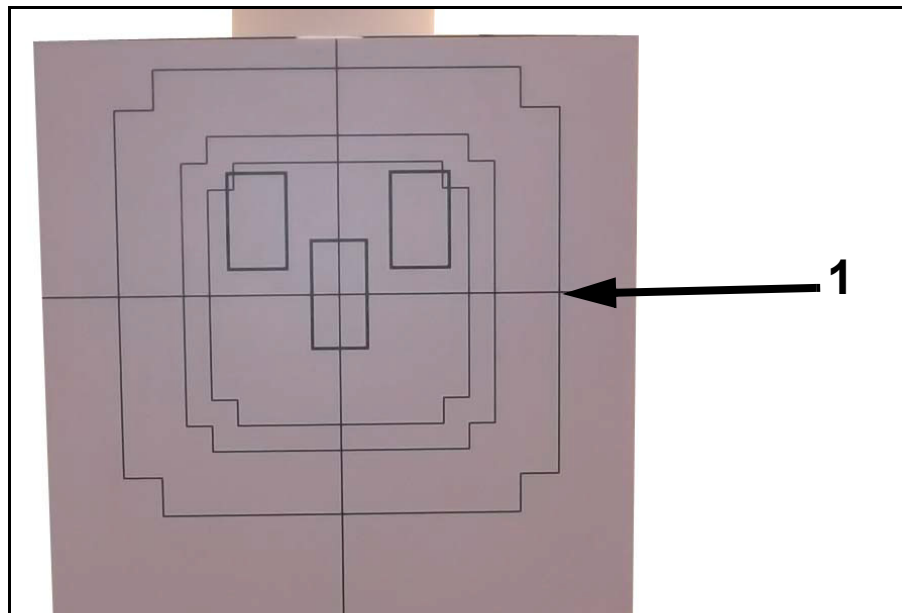

Figure 6-25. Front Panel
- 8 Pull the velcro-backed panel (1 in Figure 6-25) off the wallstand.